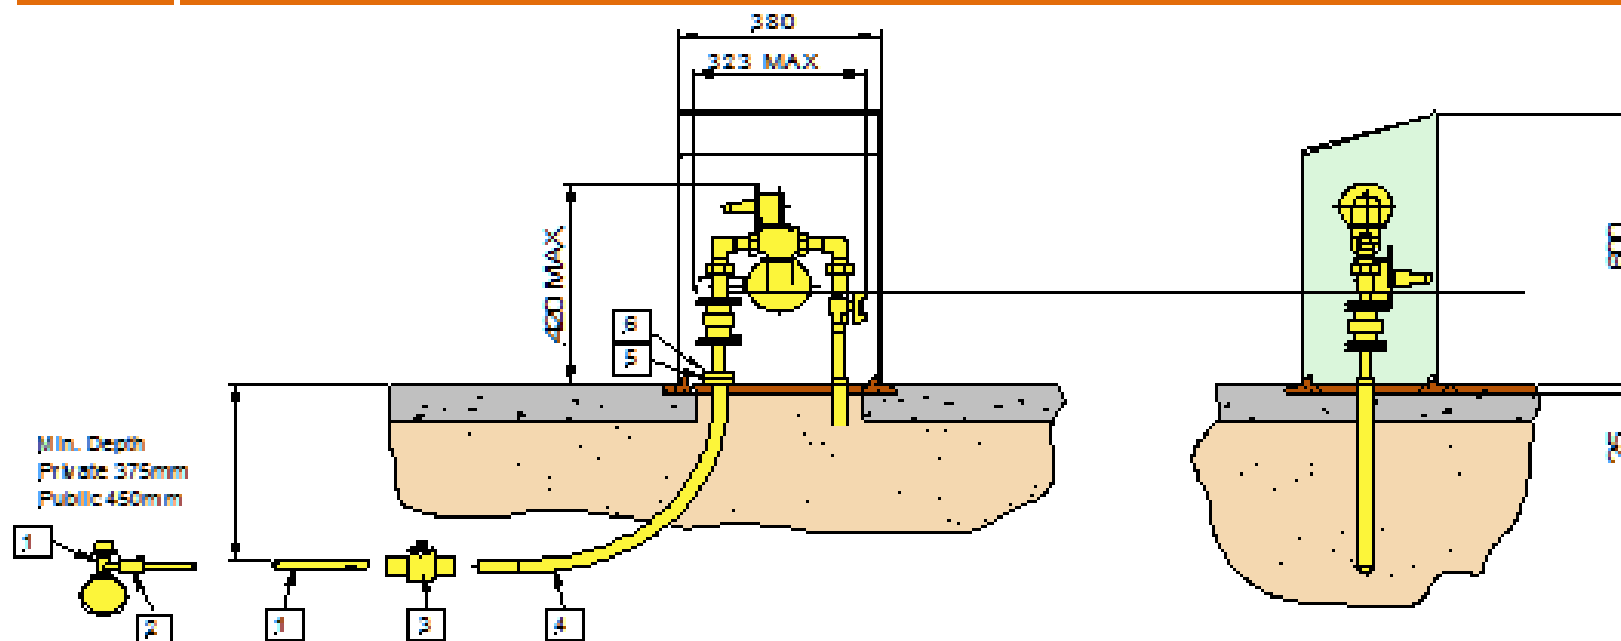

Figure 94 - PE IP PE service (MOP) 5.5bar Boundary service regulator
3. PE below ground-preformed bends must be used on the inlet and outlet to the regulator in accordance with Figure 94.